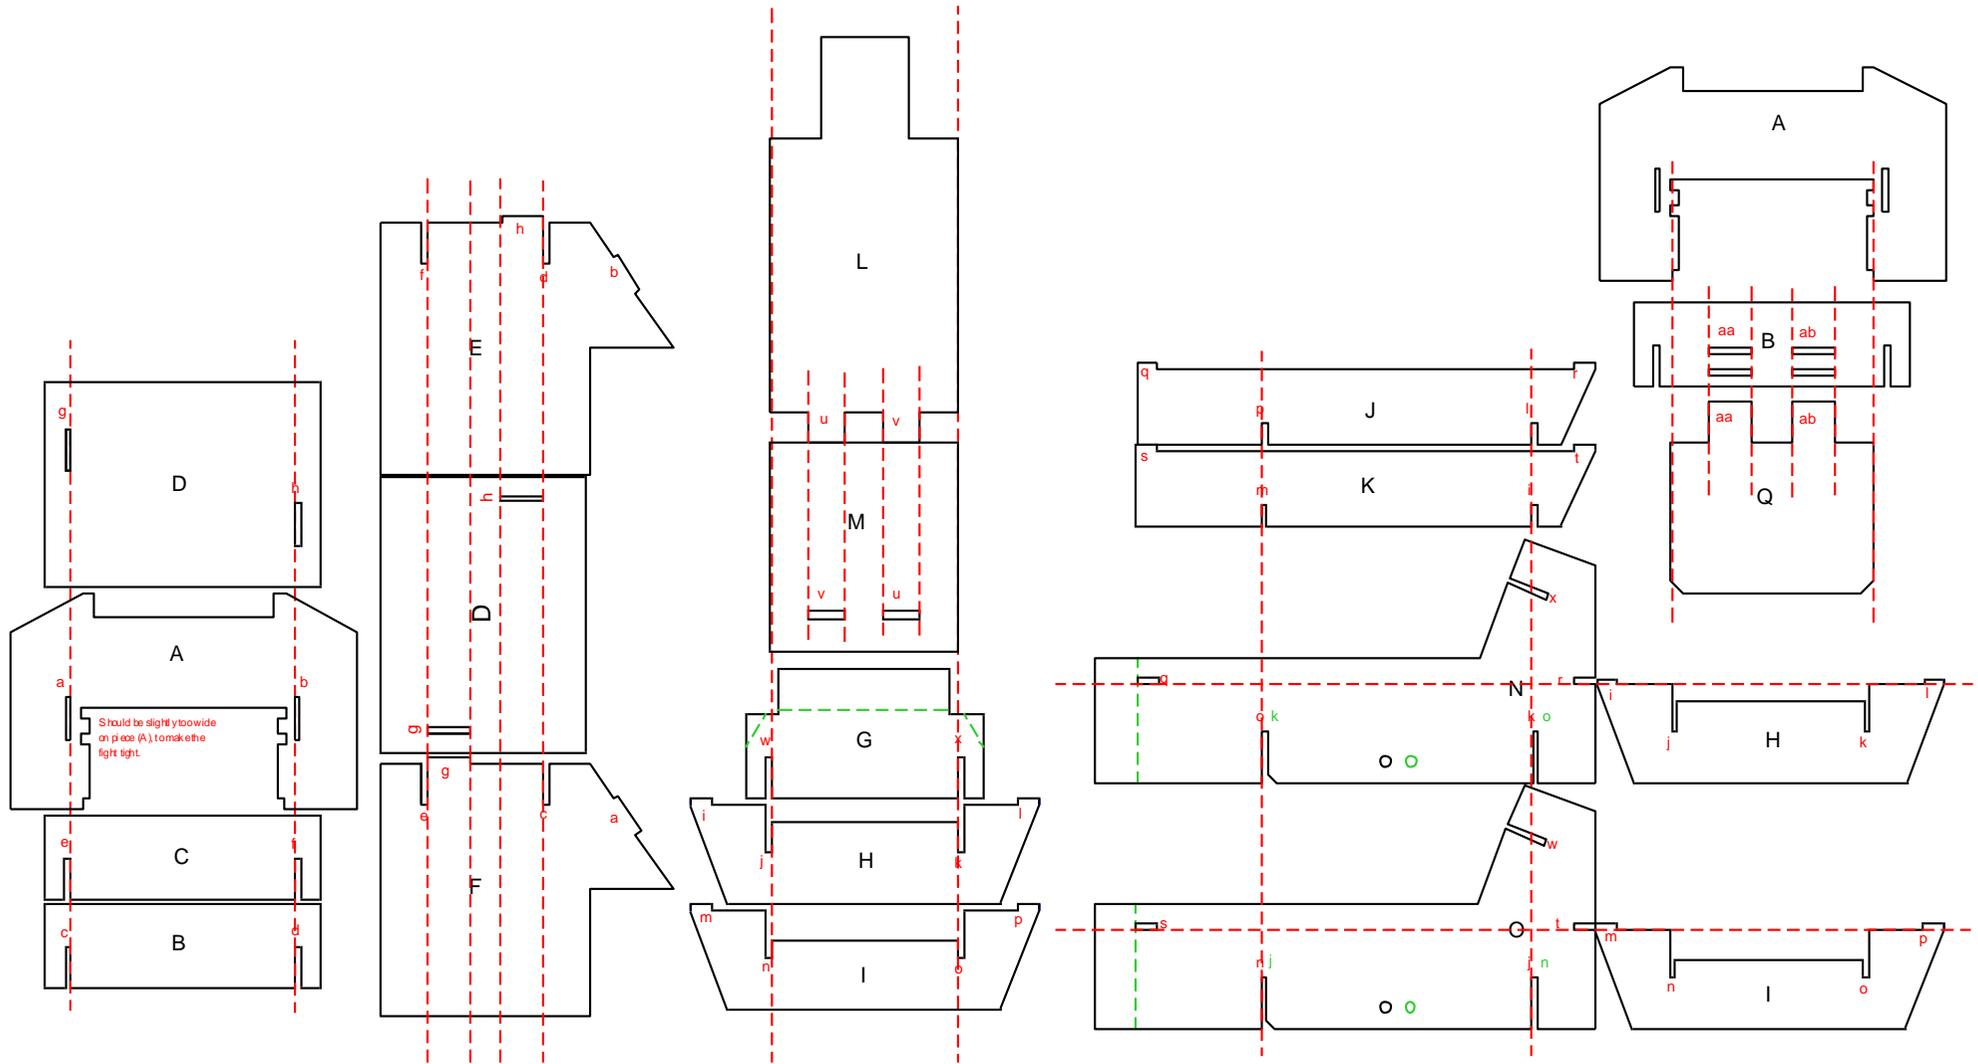

Figure 3: The relationships between the key dimensions
- The plans are designed for 12mm thick ply. If you use a different thickness of plywood you will need to adjust the widths and positions of all the slots and the height of the tabs accordingly. To assist with this, use the red lines in figure 3.
- It is useful to have the slots on parts (A) and (D) (only) to be a few millimetres closer to the centre of the cockpit (horizontally as they appear in figure 3). This is so that they fit tightly and lock into place.
To date, no cockpit has been made using the imperial version of the plans *in this document*. Please take great care to double check the measurements of the line out points (Figure 3). Please contact us if you do use the imperial version, and tell us of any incorrect measurements, or if everything is correct.
- The plans are designed for 1/2 inch thick ply. If you use a different thickness of plywood you will need to adjust the widths and positions of all the slots and the height of the tabs accordingly. To assist with this, use the red lines in figure 3.
- Figure 3 is included to use as a reference when marking the wood before cutting. Most of the measurements in the cockpit are fairly flexible. However, the red lines indicate those slots and tabs that *must* line up.
1. The forward holes in parts (N) and (O), and the full size version of part (G) are used in conjunction with putting part H in the forward seat slot. This gives a fairly upright seat position, closer to the monitor screen and front panel.
2. The rearward alternate, holes in parts (N) and (O), and the cut down part (G) are used in conjunction with part I in the forward seat position. This seat position is well suited for taller people or if you prefer a greater inclination of the seat back. The inclination this gives is closer to that found in a real F-16's cockpit.
- The two notches on each side of the foot well area of the part (A) design to accept parts (P) and (Q) (the steering wheel and keyboard trays) will probably be too tight and will need to be reshaped slightly with a file or rasp. The top back, and bottom front of each notch (as seen from the front when the desk section is fully assembled) will to be shaved. This will only be obvious when you put the tray parts into the notches and through to the cut-outs in part (B).
- Parts (H), (I), (J) and (K) have alternate dimensions marked which allow for wider seat side shelves (strakes). These alternate dimensions should be used if you have a wide based joystick and/or throttle (wider than the earlier Thrustmaster FLCs+TQS combination). Technically, the standard dimensions are suitable for the Thrustmaster HOTAS Cougar, however they are a fairly tight fit and you may prefer the extra space of the wider version.